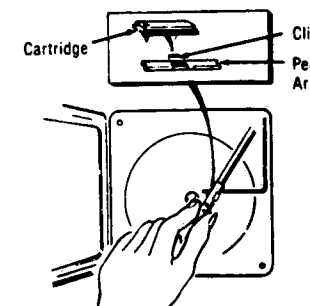

Figure 3-4. CHANGING THE CARTRIDGE.
• Lift pen, using pen lifter (Fig. 3-4).